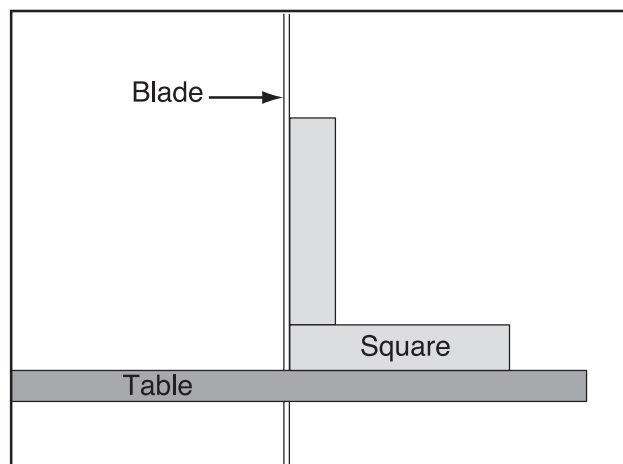

Figure 90. Squaring table to blade.
3. Loosen the guide post lock knob, raise the guide post and lock it in place, then place a machinist's square on the table next to the side of the blade as illustrated in **Figure 90**.